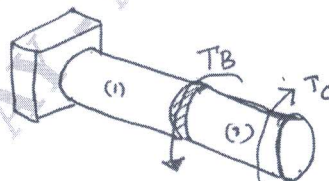

Fig. Q8 (a)
- 8 a. A compound shaft consists of two pipe segments. Segment (1) has an outer diameter of 200 mm and a wall thickness of 10 mm. Segment (2) has an outside diameter of 150 mm and a wall thickness of 10 mm. The shaft is subjected to torques $T_B = 42$ kNm and $T_C = 18$ kNm which act in the direction as shown in Fig. Q8 (a). Determine the maximum shear stress magnitude in each shaft segment. (10 Marks)